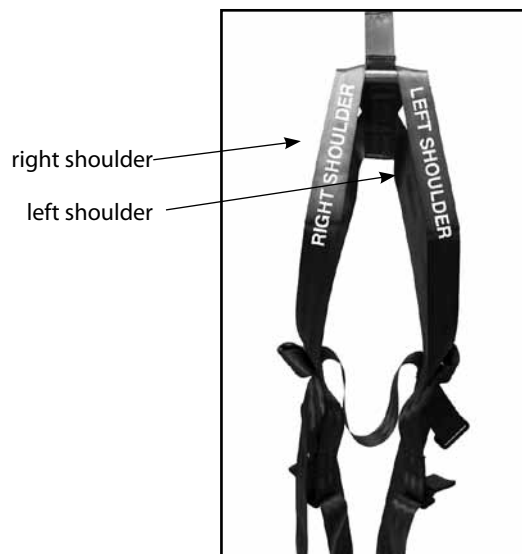

Figure 2
3. Now holding the harness, locate the (2) shoulder straps labeled "LEFT SHOULDER" and "RIGHT SHOULDER", and spread them apart to make sure there are no twists or tangles in the harness. **SEE FIGURE 2.**